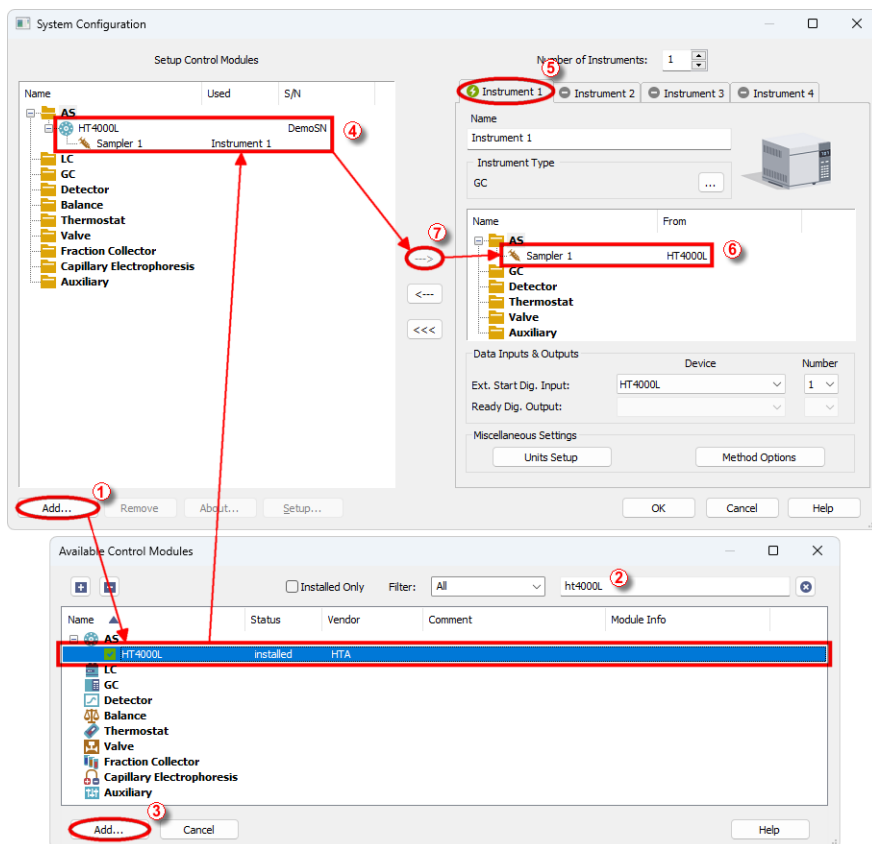

Fig. 2: System Configuration
- Press the **Add** button ① (see Fig. 2 on pg. 5.) to invoke the **Available Control Modules** dialog.
- You can specify the searching filter ② to simplify the finding of the driver.
- Select the **HT4000L** sampler and press the **Add** ③ button.